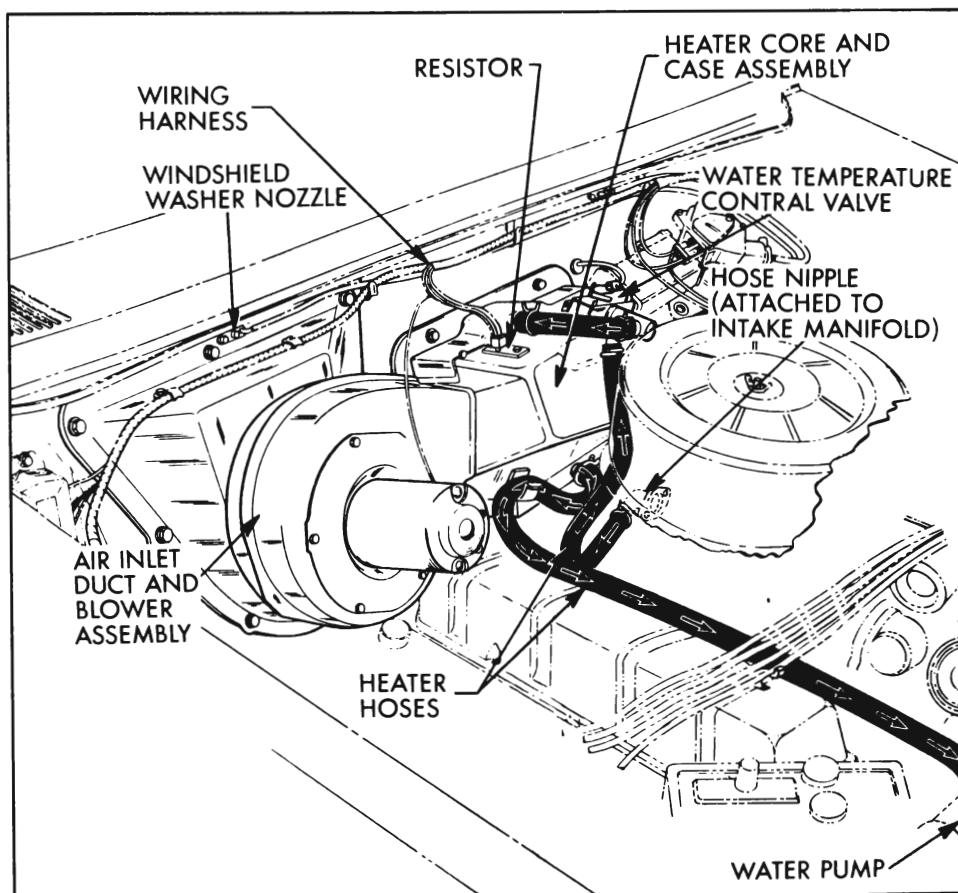
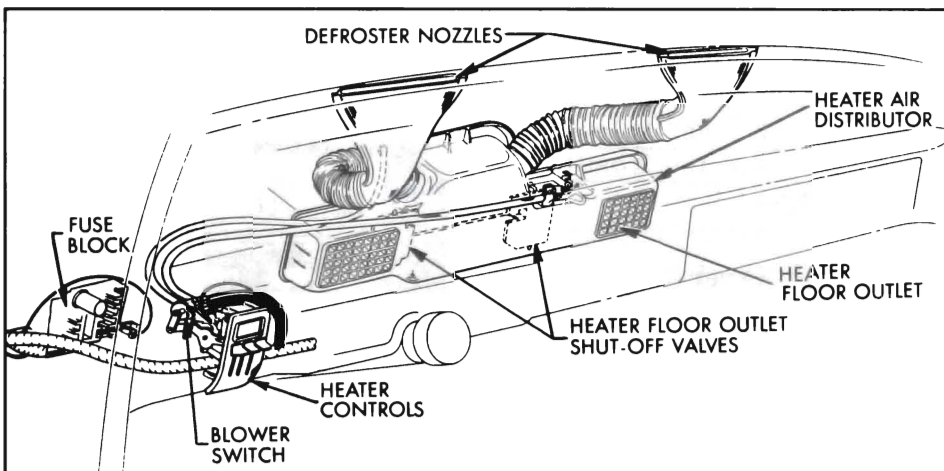

Figure 11-9—Heater Water Flow - V-8 Engine
Figure 11-11—Heater Air Distributor
core, out of core at bottom and to suction side of water pump. See Figure 11-9.
Located in the right side of heater core case is the outside air valve which allows air to enter the case when in the open position and shuts off air flow when closed. See Figure 11-9. Positioned to the rear of the heater core case assembly and inside passenger compartment is the heater air distributor. See Figure 11-11.
2. Remove right windshield washer nozzle. See Figure 11-9.
a. Insufficient Heating <ol style="list-style-type: none"> <li>1. Incorrect operation of controls.</li> <li>2. Outside air ventilators in cowl side panels not closed.</li> <li>3. Low engine coolant level.</li> <li>4. Failure of engine cooling system to warm up.</li> <li>5. Kinked heater hose.</li> <li>6. Foreign material obstructing water flow in heater core.</li> <li>7. Temperature control valve improperly adjusted.</li> <li>8. Defective temperature control valve.</li> <li>9. Heater outside air valve not open.</li> <li>10. Blower inoperative.</li> <li>11. Heater hose routed incorrectly.</li> </ol>	<ol style="list-style-type: none"> <li>1. Advise operator of correct operation of controls.</li> <li>2. Check operation and adjustment of vent control wires.</li> <li>3. Fill radiator to proper level. Fully open temperature control valve and run engine to clear air lock.</li> <li>4. Check radiator cap and engine thermostat. Check for foreign material in thermostat. Replace if required.</li> <li>5. Remove kink or replace hose.</li> <li>6. Remove foreign material.</li> <li>7. Adjust "Temp" lever control wire.</li> <li>8. Replace.</li> <li>9. Check operation of valve and adjustment of "Air" control lever wire.</li> <li>10. See subparagraph d.</li> <li>11. See Figures 11-9 and 11-10.</li> </ol>